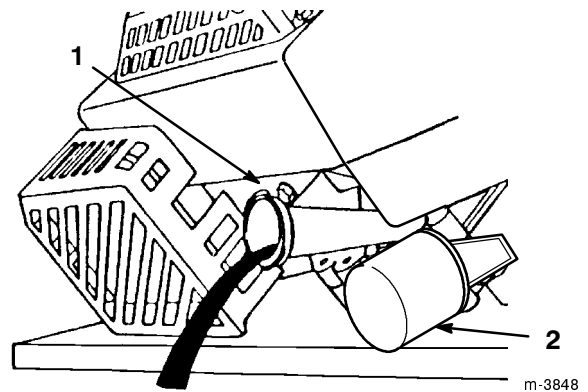

Figure 21
6. Remove the dipstick from the oil fill tube (Fig. 21).
8. Tip the lawn mower onto its **left** side and allow the oil to drain into the drain pan (Fig. 21).